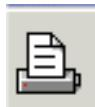

Figure 10-23. Print Label Button
23. To print a label for the item, click the **Print Label** button (see Figure 10-23).